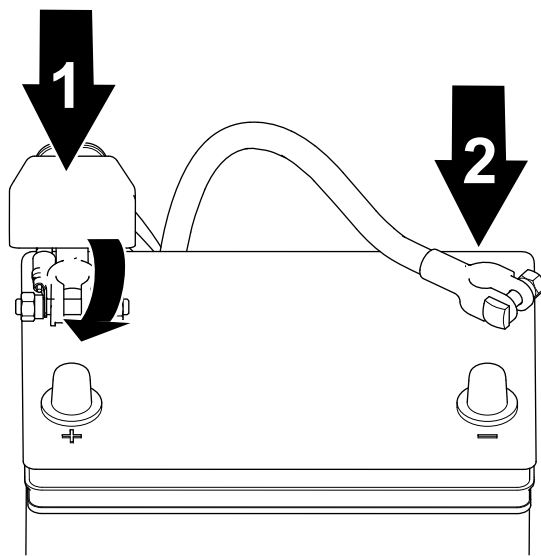

Figure 41
1. Connect the positive cable to the battery and tighten the battery-clamp nut (Figure 41).
2. Connect the negative cable to the battery and tighten the battery-clamp nut (Figure 41).